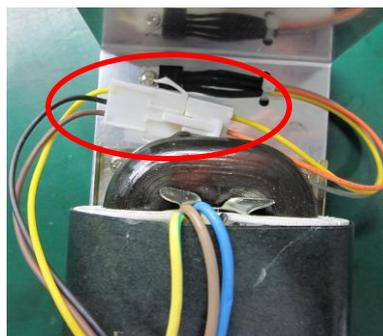

Figure 3-2
- Check if the lead wire of 78T12 and transformer are reliable, see fig. 3-2.